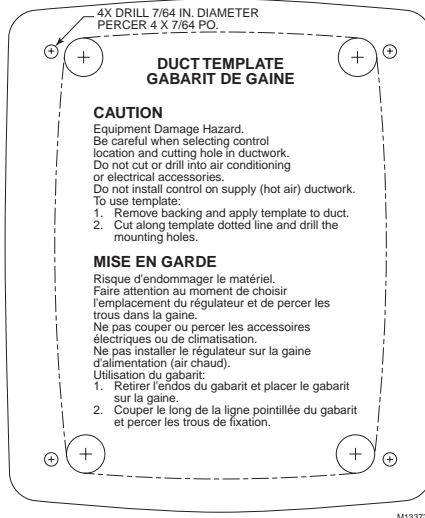

Fig. 4. Positioning return air duct template.
3. Use the duct template, Fig. 4, to make the opening and mounting holes for the humidity control.